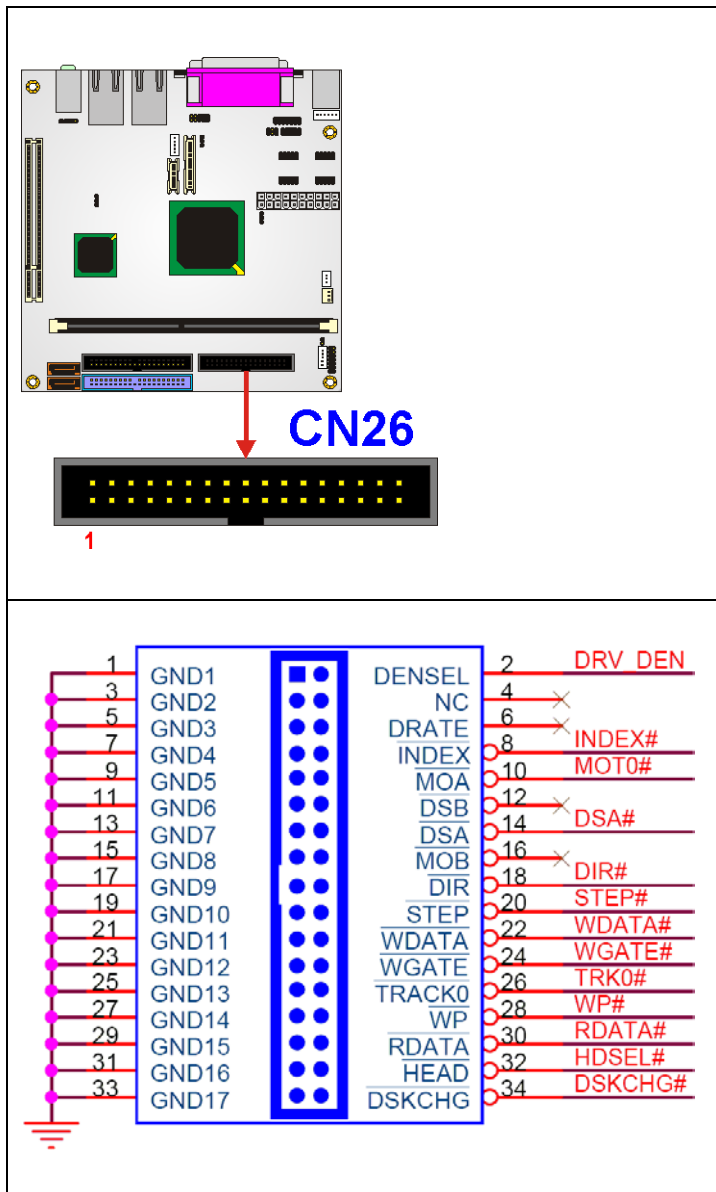

Figure 3-6: FDD Pinout Locations
- CN Location: See **Figure 3-6**